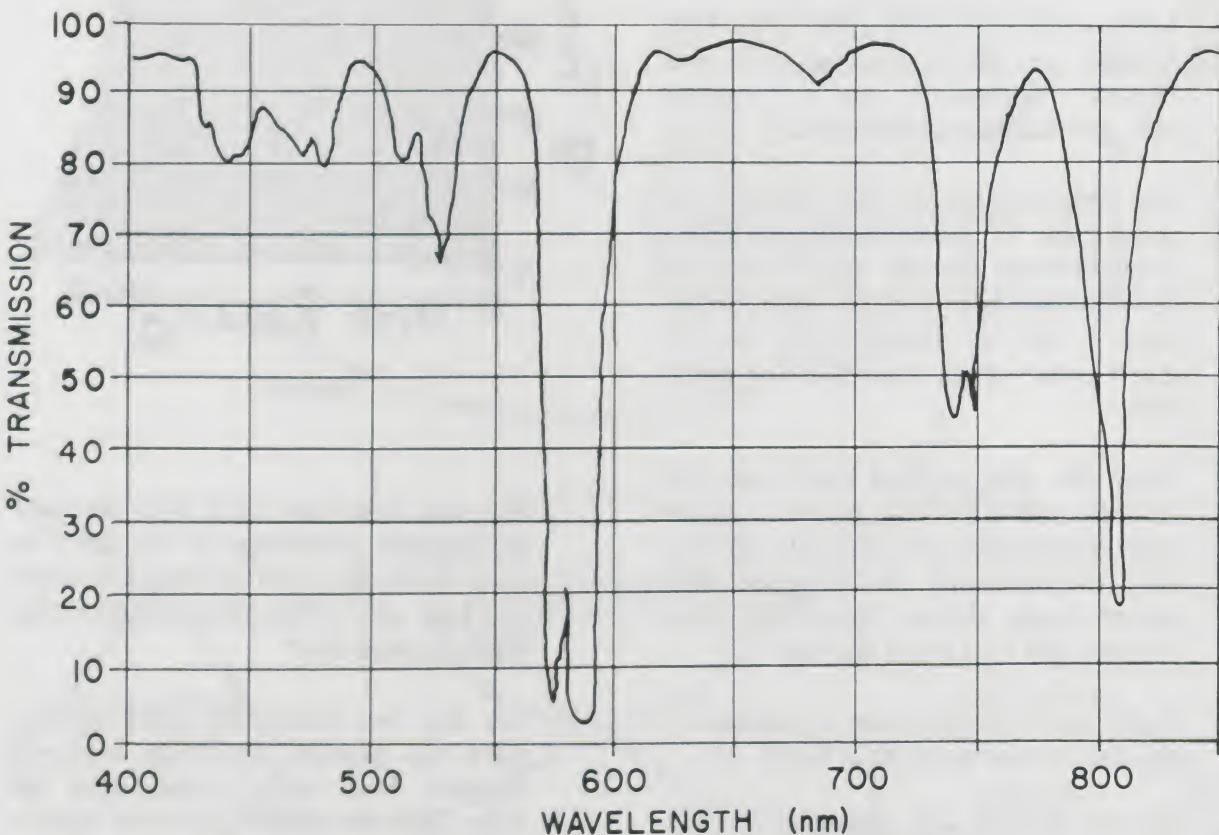

Figure 64. Transmission spectrum of didymium glass filter as taken from a Beckman DU spectrophotometer.
1. *Compare your transmission spectrum for didymium with the spectrum given. How many peaks and valleys on your graph can you identify which correspond to the spectrum of Figure 64?*